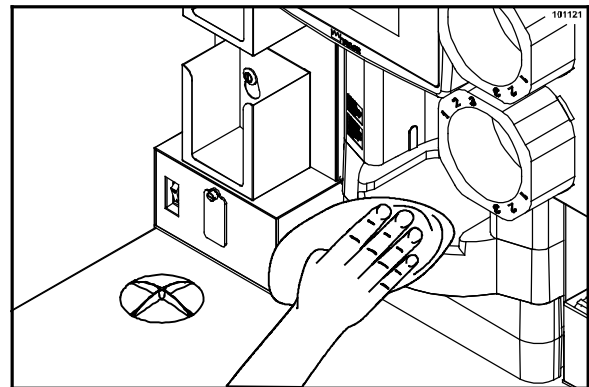

Figure 121
73. Using clean, sanitized towels and the spray bottle of sanitizing solution, wipe the exterior of the machine and the blend center, including the dispensing head and the rinse station. Discard the used towels. (See Figure 121.)